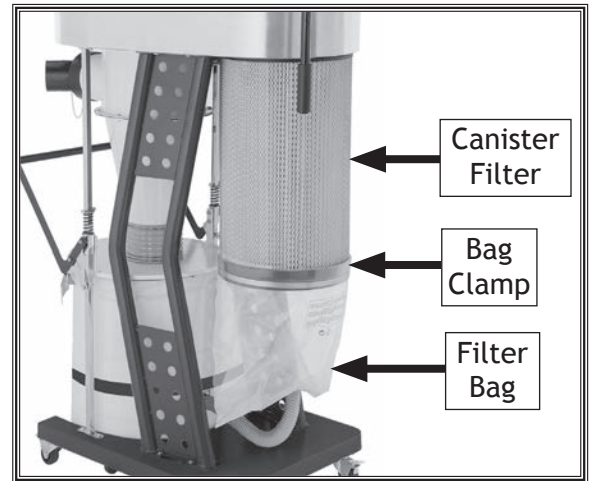

Figure 28. Filter bag attached to canister filter.
29. Attach plastic filter bag to canister filter and secure with bag clamp (see **Figure 28**).